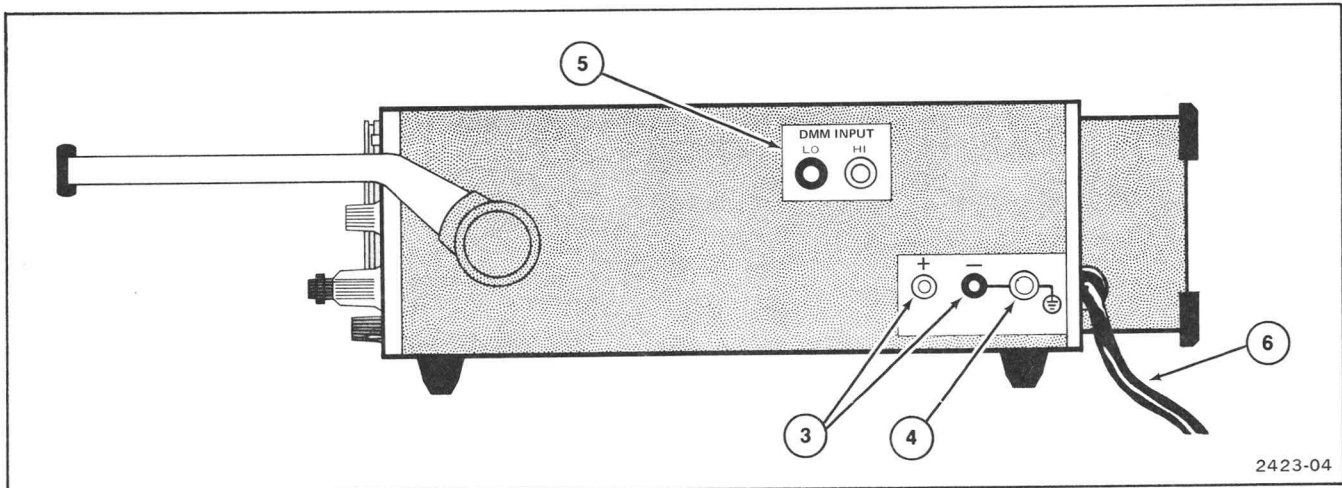

Fig. 2-3. Right side view of instrument cabinet.
- 3 **+ and -.** Connectors for applying an external dc power source (+9 V to +32 V) (Fig. 2-3).
- 4 **Ground Connector.** Connector used for the common ground connection from the power source or associated instruments or devices under test (Fig. 2-3).
- 5 **DMM INPUT: HI and LO.** Connectors used to apply external voltages or resistance to be measured by the digital multimeter (Fig. 2-3).
- 6 **AC Line Cord.** Connects the instrument to an ac-power source (Fig. 2-3). The cord may be conveniently stored by wrapping it around the feet on the rear cover.